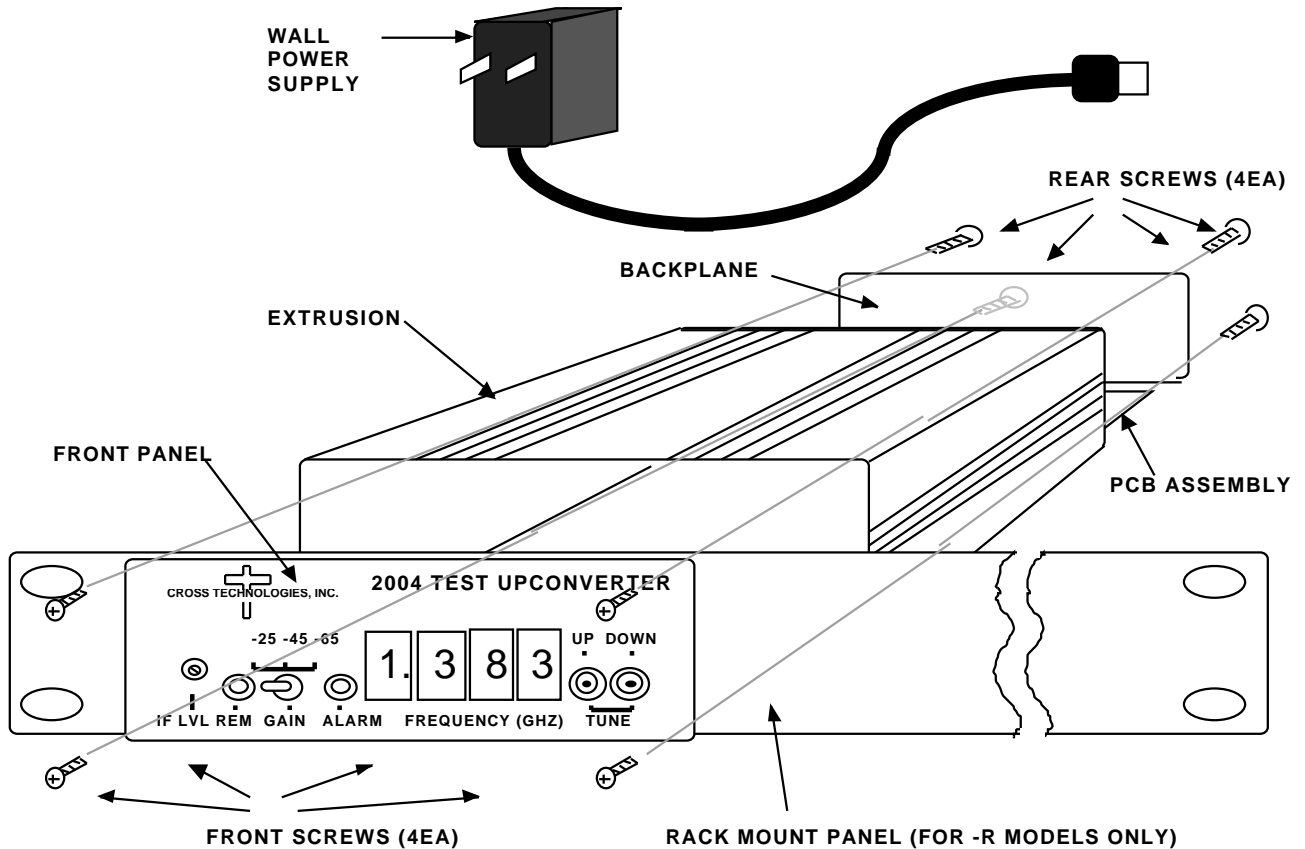
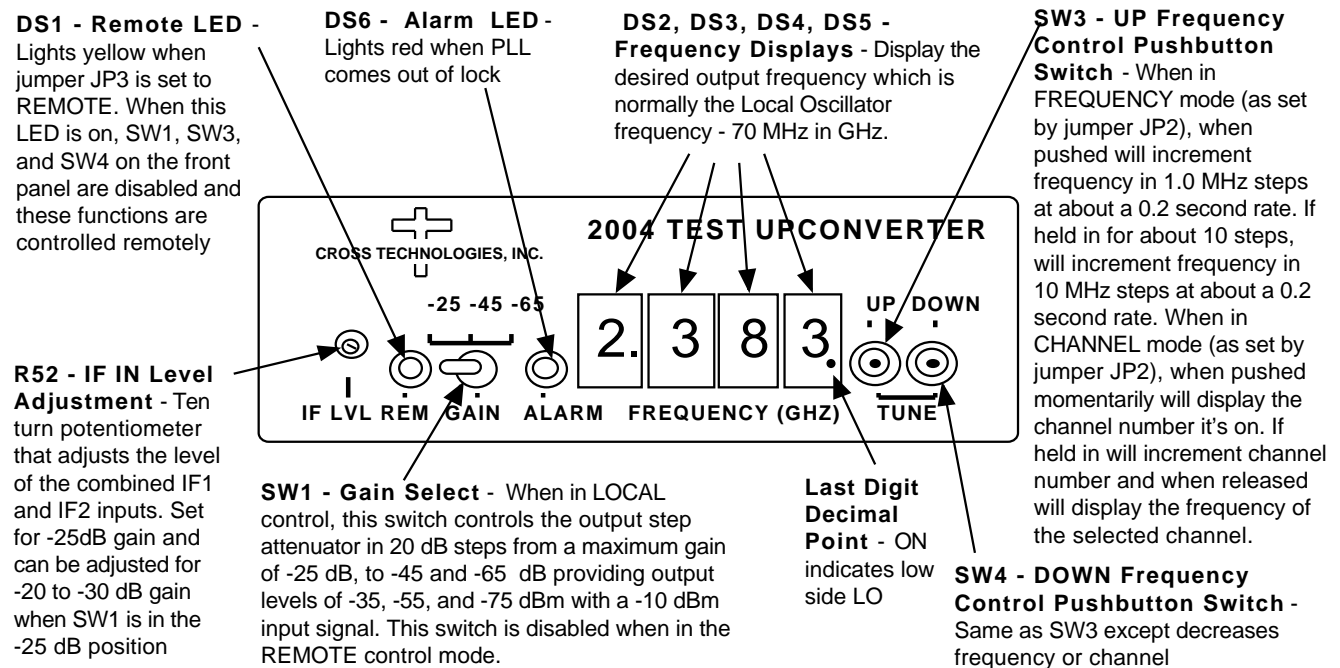
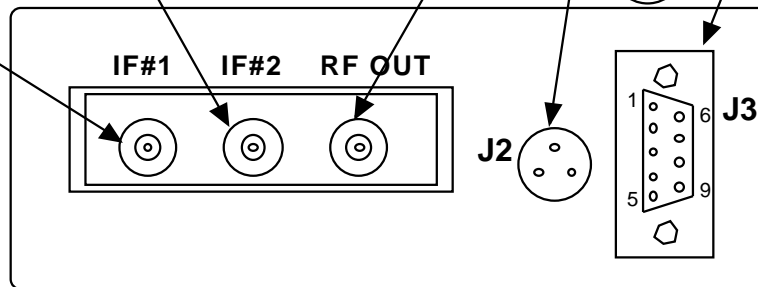
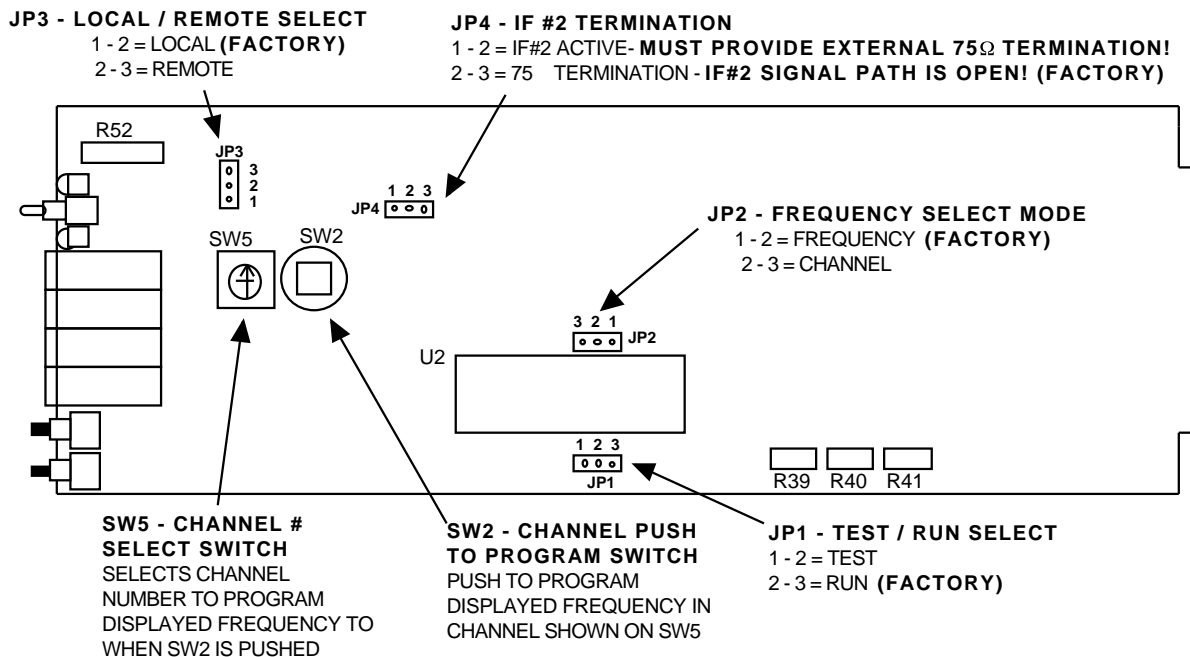

FIGURE 2.1 SERIES 2000 ASSEMBLY DRAWING
FIGURE 2.2 2004-10 Front Panel Controls and Indicators
FIGURE 2.3 2003 and 2004 Inputs and Outputs
FIGURE 2.4 2003 and 2004 On-Card Jumpers and Controls (See Section 2.4 for instructions on removing the PCB from the extrusion)
2.1 Mechanical - The 2004-10 and 2004-10R are packaged in an aluminum extrusion. The 2004-10R is mounted on a 1 3/4" X 19" panel that can be mounted to a rack using the 4 holes at the ends. Both units derive $\pm 15V$ from the wall power supply or an external regulated power supply such as the Cross Technologies, Inc. model 2000-01. See Figure 2.1.
2.2 Controls and Indicators - Figure 2.2 shows front panel controls and indicators.
2.3 Input / Output Signals - Figure 2.3 shows the input and output signals to the 2004.
2.4 Accessing and Changing On-Card Jumpers and Controls - Figure 2.4 shows jumpers (with factory settings) and other on-card controls. To remove the printed circuit board (PCB) from the extrusion for access to the jumpers and controls:
- 1.) Remove four (4) **rear panel screws** (see Figure 2.1).
- 3.) With the **wall power supply disconnected**, move jumpers to the desired positions (Figure 2.4).
- 7.) Install four (4) **rear panel screws**.
- 1.) If required, check that on-card jumpers are set to the desired positions (Figure 2.4)
- 2.) Connect the wall power supply to the 2004-10 and the wall power supply to 115 VAC, 60 Hz (Figure 2.1)
- 3.) Connect a -10dBm signal to IF #1 In (Figure 2.1, Figure 2.3)
- 4.) Connect a -10dBm signal to IF #2 In (Figure 2.1, Figure 2.3). If this port is not used it must be terminated in 75 Ω by connecting on-card jumper JP4 in the 2-3 position (Figure 2.4).
- 5.) Set the desired frequency by pushing SW3 or SW4. If numbers 0 to 9 appear when pushing SW3 or SW4, the 2004-10 is set for the channel mode (with on-card jumper JP4, Figure 2.4). See section 2.5.2 for frequency setting information.
- 6.) Set SW1 for the desired gain (Figure 2.2).
- 7.) Be sure DS1 and DS6 are off (Figure 2.2).
- 8.) If needed, R52 can be adjusted (Figure 2.2) for input signals that are different than -10 dBm (-5 to -15 dBm). Note
- 2.) **To go to the change modes function**, simultaneously **press and release both the Up and Down pushbutton** switches (SW3 and SW4, see Figure 2.2). The current IF frequency is shown on the displays.
- 5.) **To check the selected IF frequency**, momentarily **press and release both the Up and Down pushbutton** switches (SW3 and SW4, see Figure 2.2)
2.5.4 Frequency Setting, Channel Mode - A second tuning mechanism is channel selection. This is accomplished when the on board three-pin jumper (JP2) (Figure 2.4) is set to the "channel" position. Ten preset channels (0-9) can be selected as follows:
1. The 2004-10 PCB is removed from the extrusion (see section 2.4 for instructions) to access the channel selecting decimal switch (SW5) and the push to program switch (SW2) (Figure 2.4). With the display mode jumper (JP2) set in the frequency mode, the frequency set switches (SW3,SW4) are pushed to the frequency desired (Figure 2.2).
2. The decimal switch (SW5) is set to the channel number desired to be programmed (Figure 2.4).
3. Push programming button (SW2) to program the displayed frequency into that channel number (Figure 2.4).
5. When finished, set JP2 (Figure 2.4) in the "Channel" position if this tuning mechanism is desired.
2.5.5 Remote Operation - Frequency control and setting of the output attenuator can be remotely commanded from an external (not supplied) PC using a simple DOS program. To place the 2004-10 in the Remote mode, place on-card jumper JP3 in the REMOTE (pins 2-3) position (Figure 2.4) and observe yellow LED DS1 (Figure 2.2) is on. Serial ASYNC (8N1) data is received via RS232C receiver U4 and sent via RS232C transmitter U13 at a 9.6kB/s data rate. When in the remote mode, either frequencies or channel numbers can be provided, but programming the frequencies of the channels can only be done locally. When in the remote control mode, the selection of U6 and consequently the output attenuator U16, U24 is controlled through the remote serial port disabling the function of front panel attenuator control switch SW1 and providing gain selection of -25 dB, -45 dB or -65 dB.
The remote control program sends commands to the 2004-10 through pin 3 of the DB9 connector, J3 (Figure 2.3). Pin 3 is an RS-232 serial port set to accept 8N1 formatted data. Each command sent to the 2004-10 consists of an instruction byte followed by one or two bytes of data. The 2004-10 acknowledges receiving and successfully executing each remote control command by sending an **acknowledge byte** (9600 baud, 8N1 format) through pin 2 of the DB9 connector, J3.
3.2.3 Frequency Setting, Channel Mode - A second tuning mechanism is channel selection. This is accomplished when the on board, but not front panel accessible, three-pin jumper (JP2) (Figure 2.4) is set to the “channel” position. Ten preset channels (0-9) can be selected as follows:
5. When finished, set JP2 (Figure 2.4) in the “Channel” position if this tuning mechanism is desired.